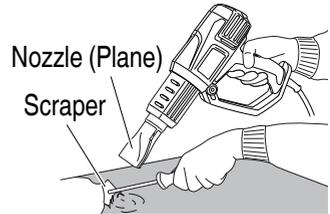

Fig. 6
1. Peeling off paint (**Fig. 6**)